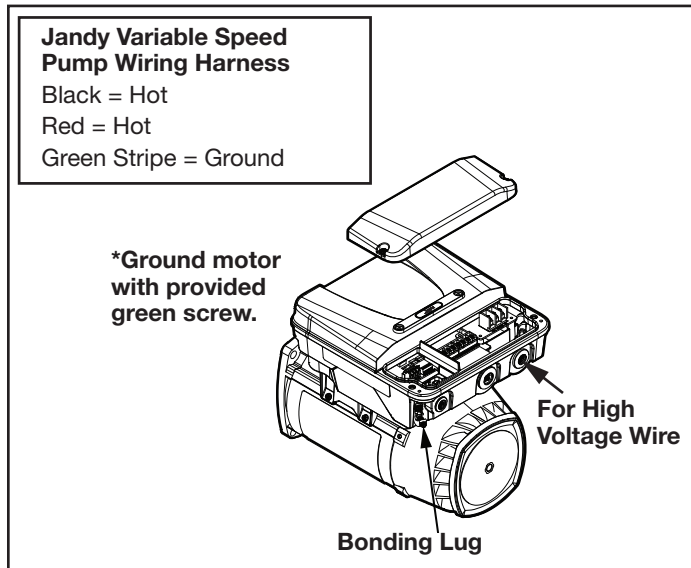

Figure 10. Jandy External Bonding
6. Permanently ground the motor using the green ground wire, as shown in Figure 10. Use the correct wire size and type specified by National Electrical Code (NEC) and the Canadian Electrical Code (CEC). Make sure the ground wire is connected to an electrical service ground.
7. Bond the motor to the pool structure in accordance with the National Electrical Code (NEC) and the Canadian Electrical Code (CEC). Use a solid No. 8 AWG or larger copper conductor (US). Run a wire from the external bonding lug to the pool bonding structure, as shown in Figure 10.
8. Connect the red and black wires of the pump to the two line side connections on the filter pump relay as shown in Figure 10.